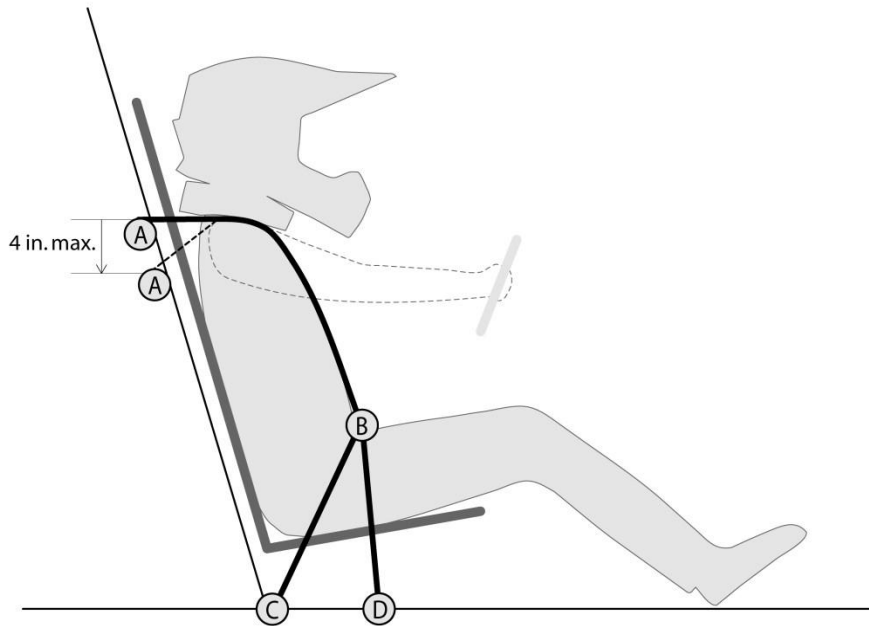

Figure B-30: Driver Harness, Shoulder Harness Vertical Position
The shoulder belt mounting point (A) (see Figure B-30) shall be positioned no higher than vertically level with each driver’s shoulders, and no lower than 102 mm (4.0 in.) vertically below each driver’s shoulders.